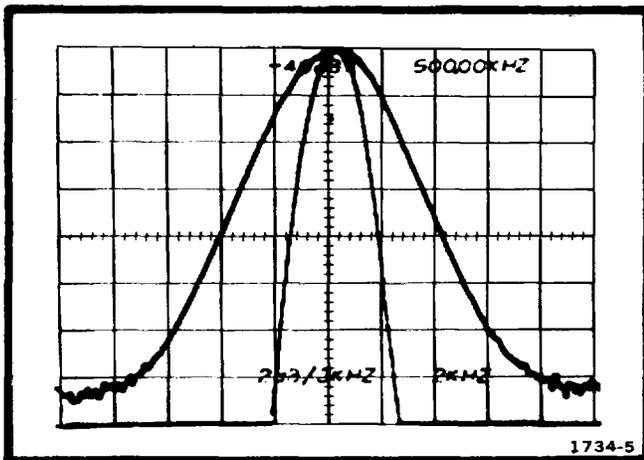

Fig. 3-3. Log amplifier calibration composite waveform.
9. Repeat steps 7 and 8 until the displayed waveforms are 8 vertical divisions in both log amplifier settings. (Refer to Fig. 3-3, Log Amplifier Calibration Composite Waveform.) If desired, check linearity of the 10 dB/div display by increasing the REFERENCE LEVEL in 10 dB steps. Adjust LOG CAL slightly to correct any non-linearity.